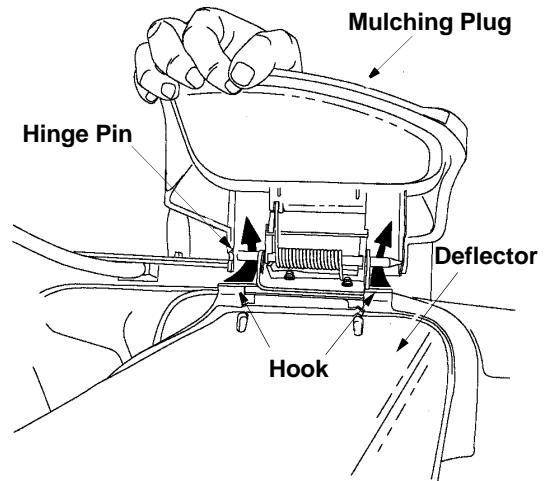

Figure 5
- Your mower has been shipped as a mulcher. To convert it to a side-discharge mower, lift the mulching plug. Slide the two hooks on the side-discharge deflector under the hinge pin on the mulching plug assembly. Lower the mulching plug. See Figure 5 .